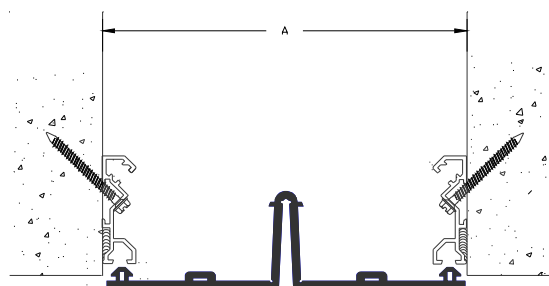

Figure 6
STEP 12. Beginning from the bottom of the joint, insert the arrows of the trimmed section of face seal into the corresponding base member face seal retainer track. Use a wall paper roller (by others, 1/2" width) to roll the arrows into the tracks continuously along the length of the face seal, see Figure 6. Lubricating the face seal's arrows with soapy water or liquid soap can make installation of the face seal easier. Do not use oils or oil based lubricants on the face seal arrows.